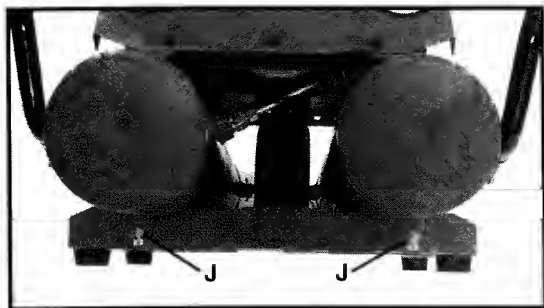

Fig. 4
Drain Valve (J) Fig. 4: A drain valve is located at the base of each air tank and is used to drain condensation at the end of each use.